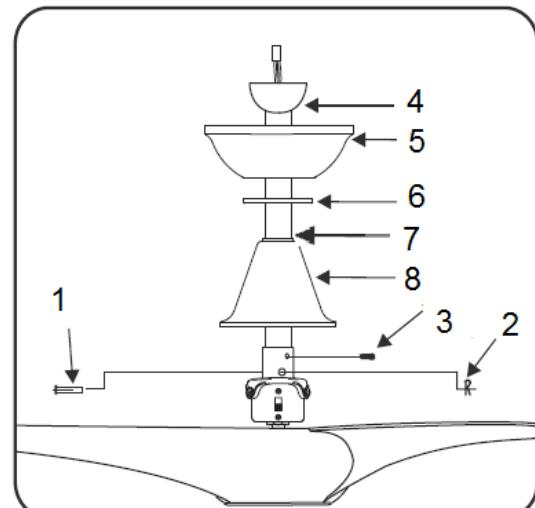

Fig. 5
- Slide the coupling cover (8), canopy cap (6) and canopy (5) onto the downrod (7). (Fig. 5)
- Reinstall the ball joint and cross pin (4) on to the down rod (7). Make sure that the cross pin is in the correct position and the ball joint set screw is tightened.